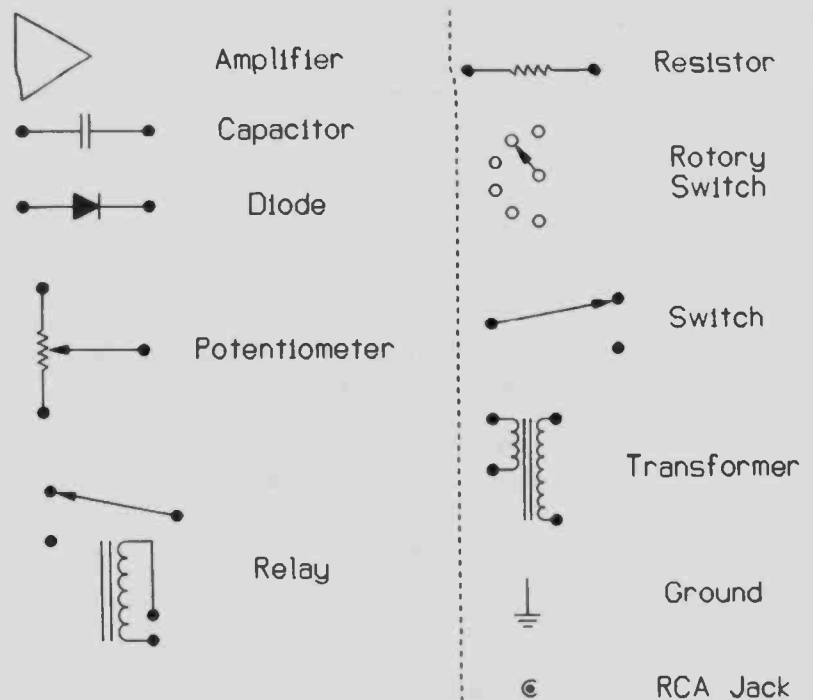
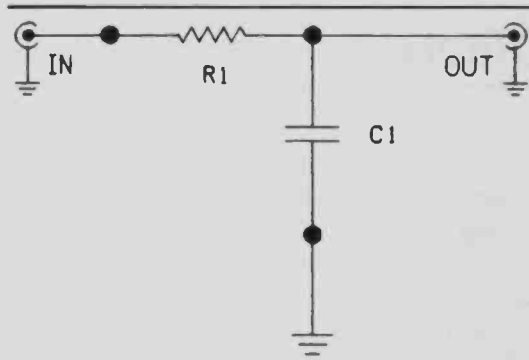
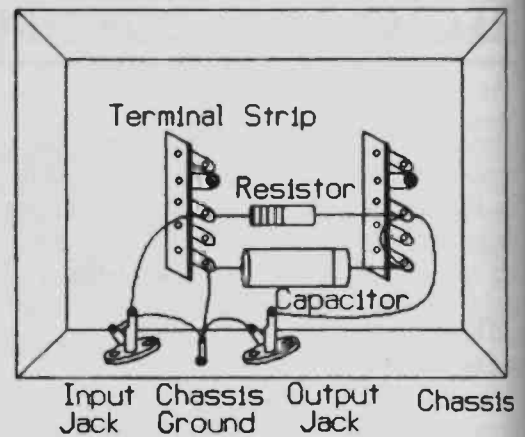

FIGURE 8-1: Symbols for electronic parts.
FIGURE 8-2: Sample of a simple schematic diagram.
FIGURE 8-3: Components in position and connected based on schematic in Fig. 8-2.
**SCHEMATIC DIAGRAMS.** Schematics are simply maps showing how electrical parts connect to each other. Symbols represent the components. *Figure 8-1* shows some common symbols. I've shown a simple schematic diagram in *Fig. 8-2*. In *Fig. 8-3*, I've drawn components and connected them together as shown in the schematic.